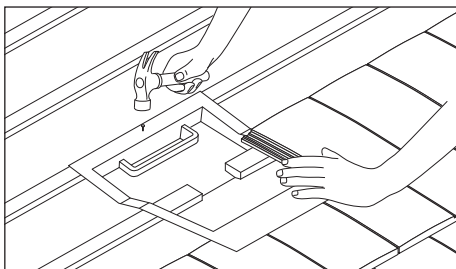

Fig. 6 – Nail catchment tray
- 5 Lay ventilation tile over catchment tray and clip or nail, if necessary (Fig. 6).